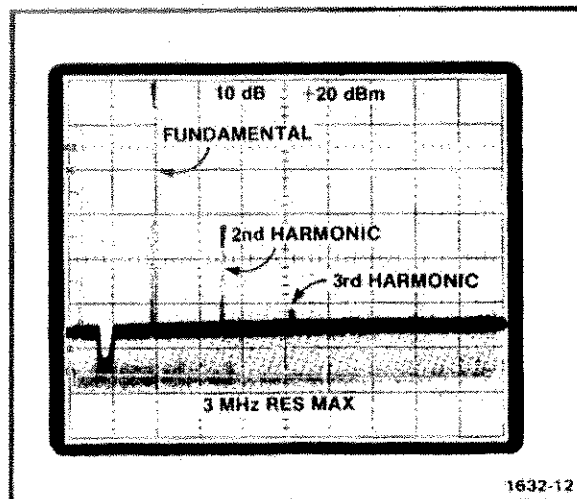

Fig. 2-4. Typical display of 245 MHz signal with fundamental properly positioned.
e. Position the fundamental vertically to the top graticule line with the spectrum analyzer position control. See Fig. 2-4 for reference.
f. Rotate the SG 504 COARSE control from 245 MHz to 550 MHz slowly and check that the vertical distance (suppression) between the top of the second harmonic and fundamental is at least 2.5 divisions (25 dB); the tops of the third and remaining harmonics are separated at least 4.0 divisions (40 dB). See Fig. 2-4 for reference.
- h. Check—rotate the SG 504 COARSE control from 495 MHz to 1050 MHz and check that the vertical distance (suppression) between the top of the second harmonic and fundamental is at least 2.5 divisions (25 dB); the tops of the third and remaining harmonics are separated at least 4.0 divisions (40 dB). See Fig. 2-4 for reference.
- p. Check—that the vertical distance (suppression) between the top of the second harmonic and fundamental is at least 2.5 divisions (25 dB); the tops of the third and remaining harmonics are separated at least 4.0 divisions (40 dB). See Fig. 2-4 for reference.